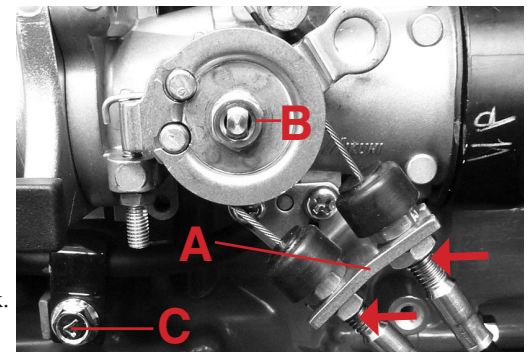
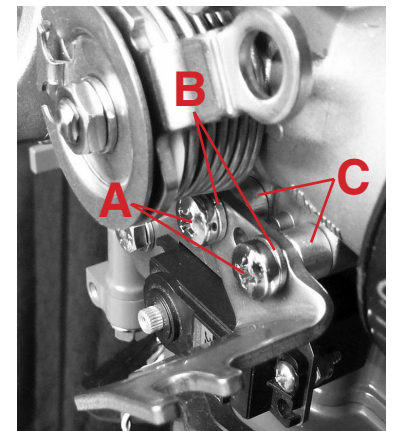

Fig 2
Fig 3
**Step 3: See Fig. 2**
- Slide throttle cables out of cable hanger (A) and remove cables from throttle assembly.
**Step 4: See Fig. 3**
- Use supplied screws (A), lock washers (B) and spacers (C) to reinstall cable hanger as shown.
**Step 5: See Fig. 2 & 4**
- Remove bolt from hose retainer - See "C" in Fig 2. Save bolt so motor can be returned to stock.
**Step 6: See Fig. 2 & 5**
- Remove Suzuki nut and lock washer from throttle assembly - See Fig 2 "B". Save parts so motor can be returned to stock.